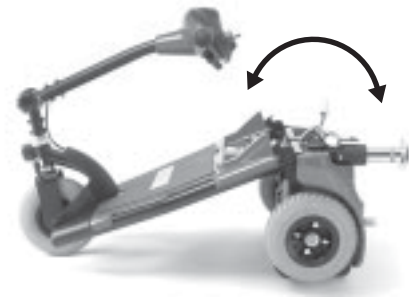

Figure 16. Frame Positioning
3. Push back on the seat post to pivot the scooter's rear section rearwards until the rear section is standing vertically on its rear bumper. See figure 16.
3. Holding the seat post, slowly pivot the rear section forward until the curved locking brackets are fully connected onto the top rear pegs. See figure 16.